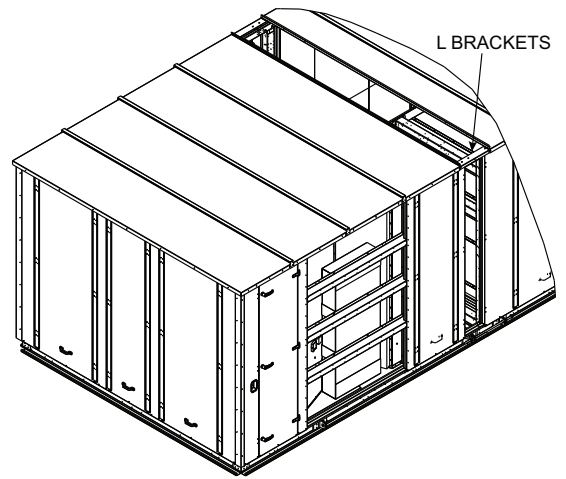

Fig. 44 — L Bracket Installation
13. Install L brackets, top cover and top cap joining main unit section and return section top cover assemblies. See Fig. 44 and 45.